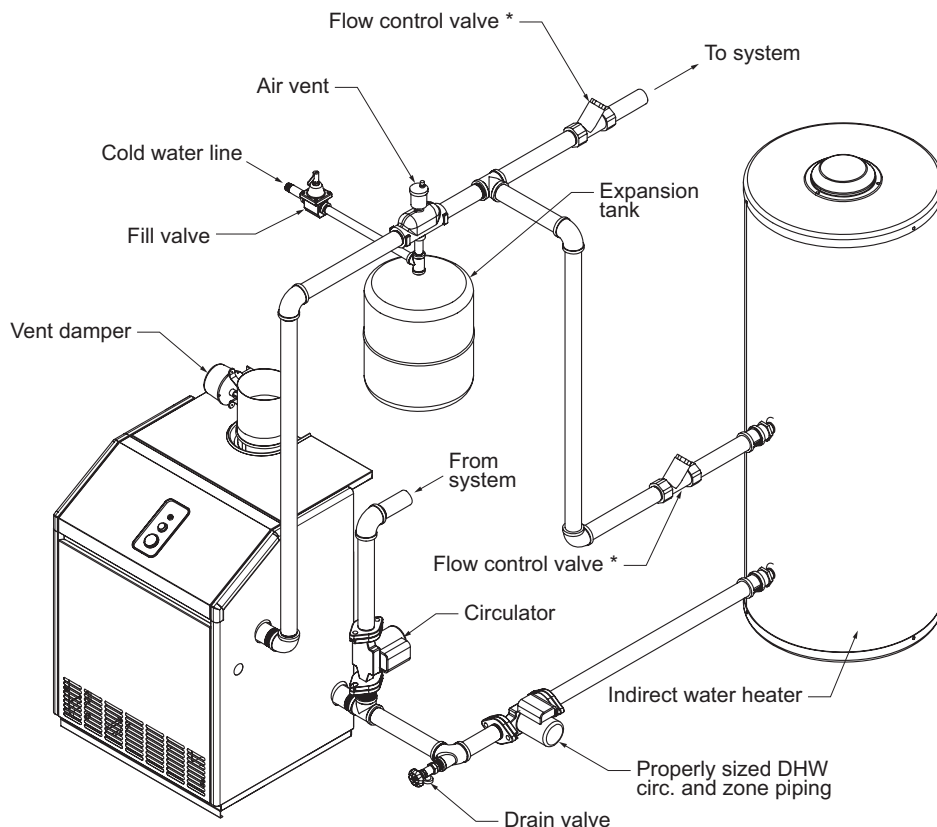

Figure 8.4 (Indirect water heater boiler side piping)
- 2) Indirect Water Heaters - Figure 8.4 shows typical indirect water heater piping. Boiler piping is the same as for any two zone system. Figure 8.4 shows circulator zoning, which is usually preferred for indirect water heaters. Size the circulator and indirect water heater piping to obtain the boiler water flow through the indirect water heater called for by the indirect water heater manufacturer.